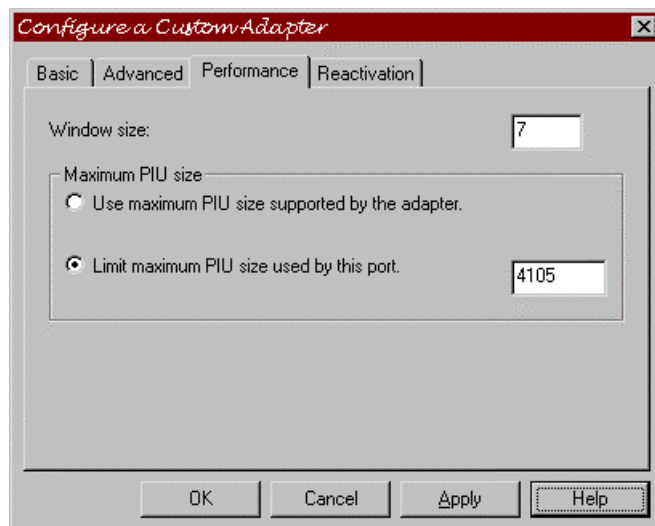

Figure 11-6. Completed Performance Screen
4. After completing the Advanced screen, click the **Performance** tab (Figure 11-6).